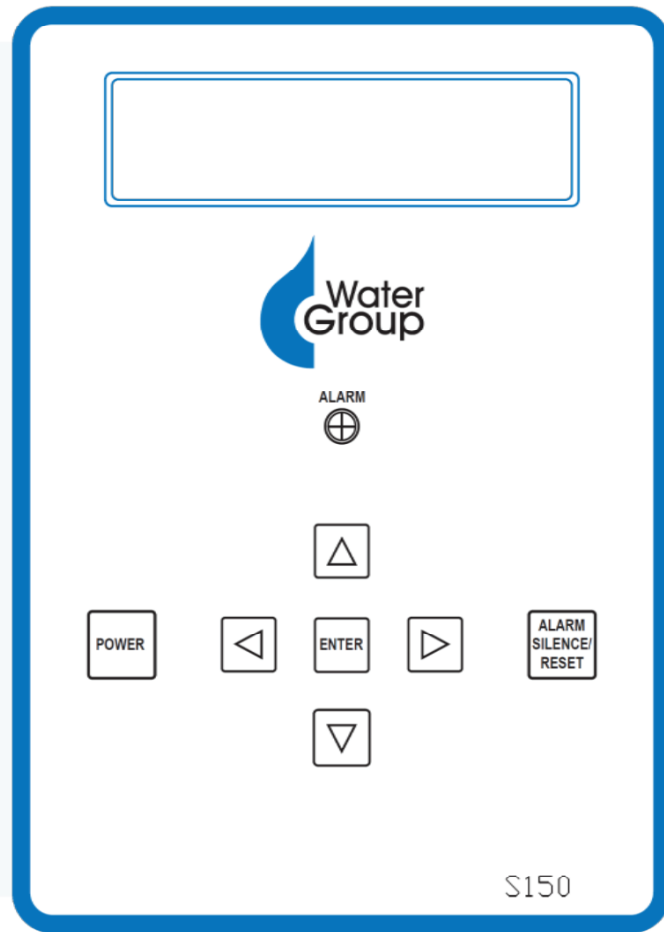

Figure 10
4. Connect the system to the power supply. You must press the power button (see Figure 10 on page 17) for the unit to start up without delay.
8. Once all the desired flows are set, allow the system to run for approximately 30 minutes, and then record the following measurements using the units gauges (U) and your instruments (I):
- a. Feed Water Temperature, °F (I) \_\_\_\_\_